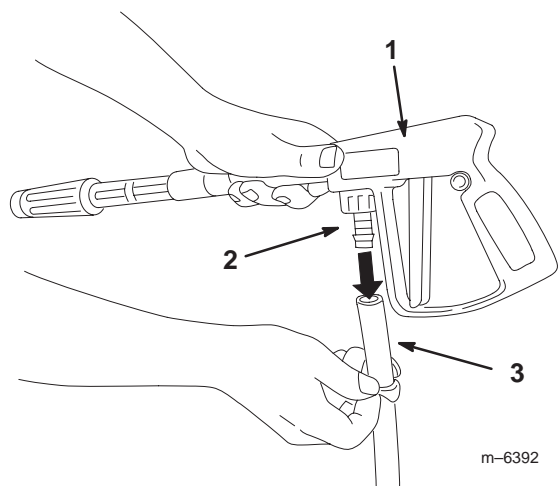

Figure 14
2. Connect the free end of the long hose to the fitting on the gun (Fig. 14).